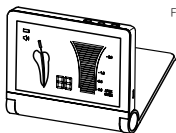

Fig.1
- Insert the tester into the measuring wire socket (Figure 1). The LCD display should show a value within the range of "0.5-0.0" and the root canal indicator is in the yellow area, then it means normal. If the value is not in the "0.5-0.0" range, then the device may be damaged and should not be used.
- Connect the measuring wire: securely insert the plug of the measuring wire into the Measuring wire socket on the unit. (Fig.1)